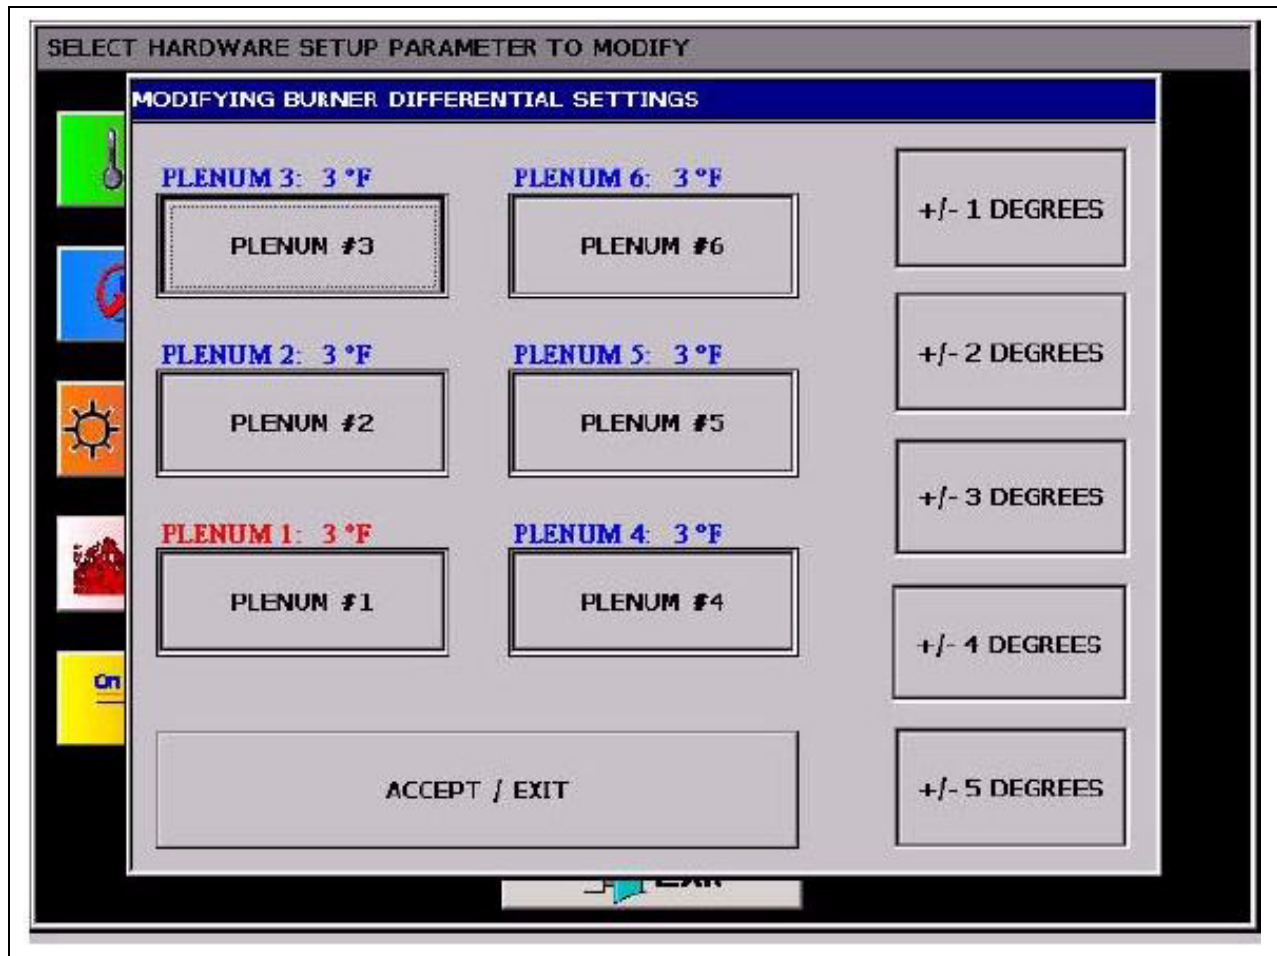

Figure 6I
8.  to adjust the switching range of the burner. (*See Figure 6I on Page 32.*) Default is 3°F (1°C). Tower dryers have just 1 plenum.